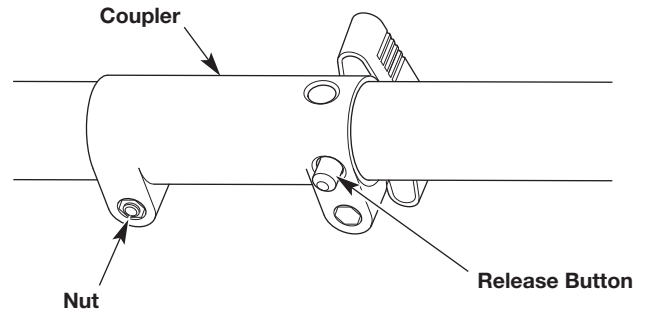

Fig. 4
NOTE: Do not tighten the nut (Fig. 4).
2. Press and hold the release button (Fig. 4).